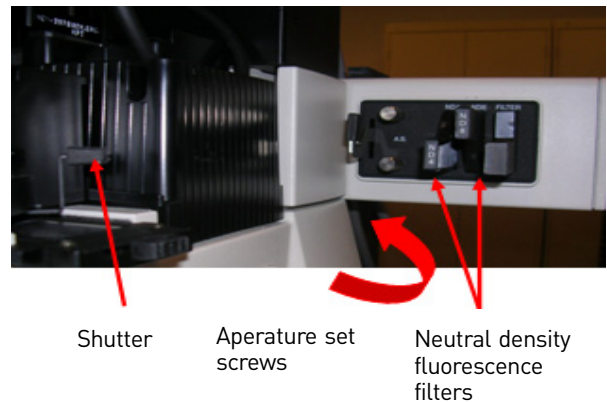

Figure 35 Fluorescence components
3. Make sure that the shutter located in the fluorescence turret is in the Open O position (see Figure 35).
Center the aperture using the 2 set screws (see Figure 35).
7. Make sure that the two neutral density fluorescence filters located to the left of the EXFO cone are in their OUT position (see Figure 35).